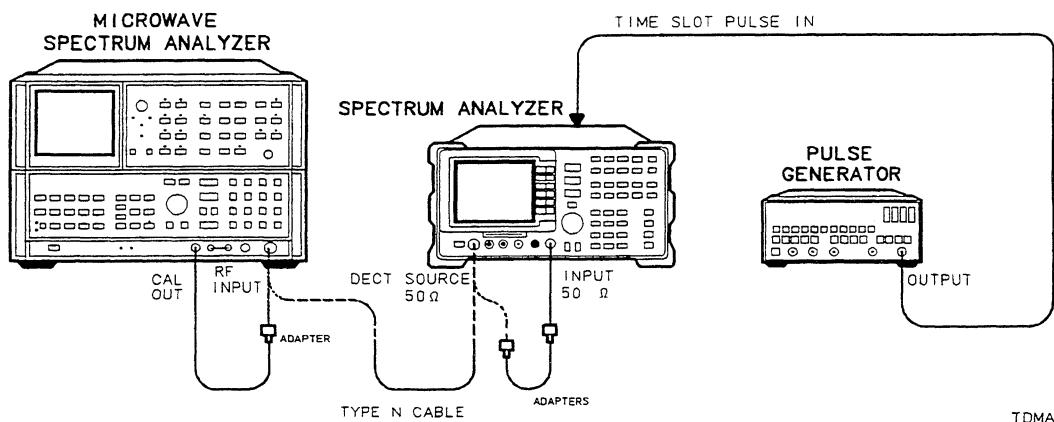

Figure 9-8. TDMA Switch On/Off Ratio Test Setup
2. Connect the 23 cm BNC cable between the DECT SOURCE $50\ \Omega$ and INPUT $50\ \Omega$ connectors on the spectrum analyzer, using the N(m) to BNC(f) adapters. Refer to Figure 9-8.
10. Connect the Type N cable from the spectrum analyzer DECT SOURCE 50Ω output to the microwave spectrum analyzer RF INPUT. Also connect the BNC cable from the spectrum analyzer TIME SLOT PULSE IN input to the pulse generator output. Refer to Figure 9-8.